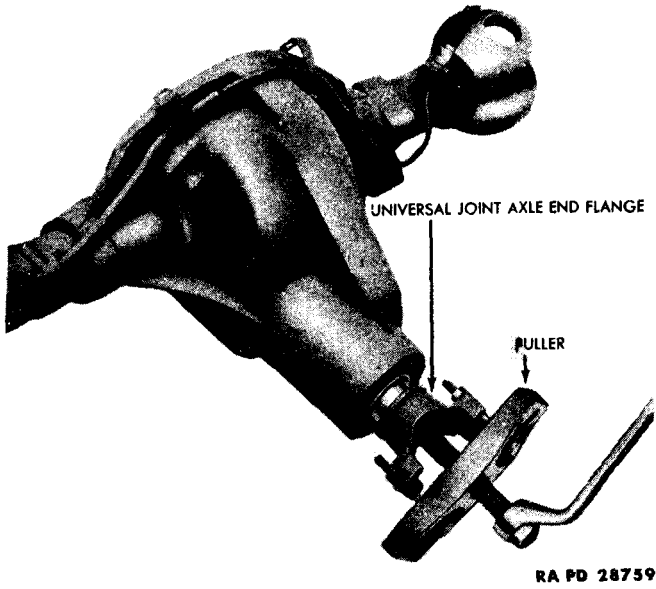

Figure 50 – Removing Universal Joint Axle End Flange With Puller 41-P-2905-60
g. Remove Drive Pinion. Remove the nut and flat washer that secure the universal joint flange to the drive pinion. Install the puller 41-P-2905-60 to the universal joint flange (fig. 50) and remove the flange. Using a brass drift and hammer, drive the drive pinion out of the axle housing (fig. 51). Remove the shims and spacer from the drive pinion, noting the thickness of the shims removed from the pinion.